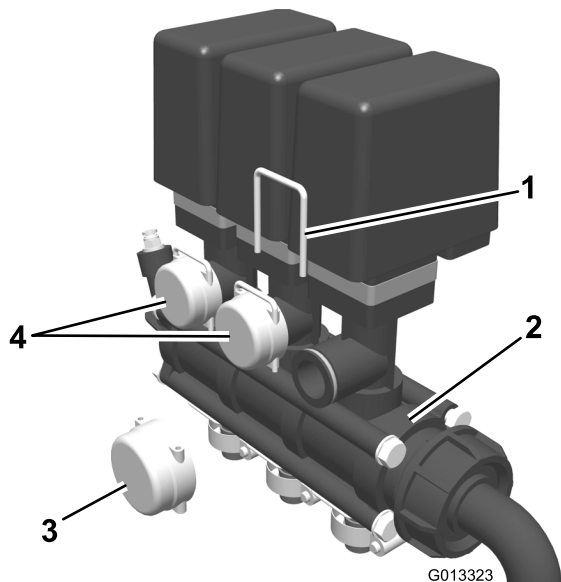

Figure 11
3. Install three bypass caps onto the all boom valves and secure them with the forks removed previously (Figure 11).